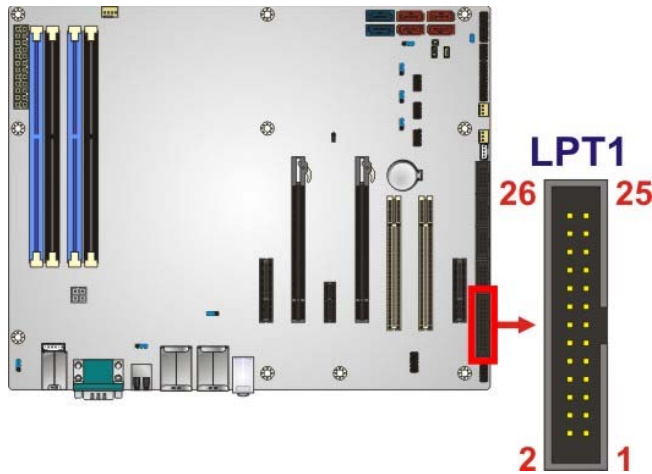

Figure 3-15: Parallel Port Connector Location
- CN Location:** See Figure 3-15